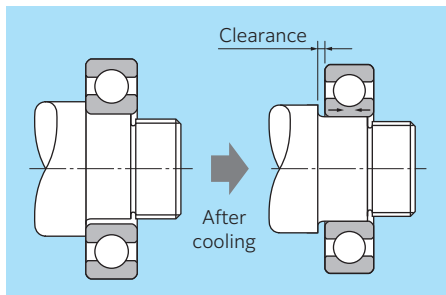
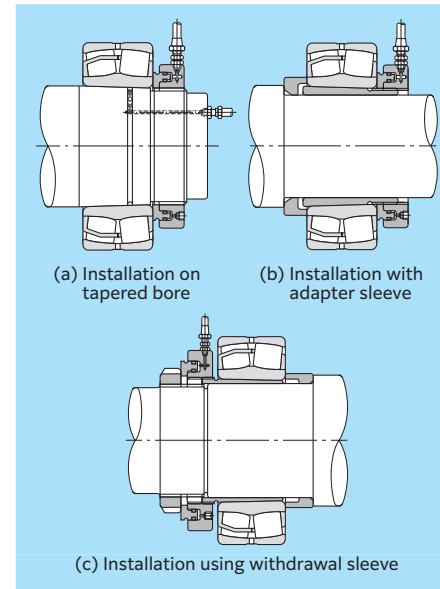

Fig. 15.19 Bearing contraction after heating
Fig. 15.22 Installation using hydraulic nut
- When heat fitting is performed, the inner ring contracts in the axial direction during cooling, creating a clearance between the bearing and the shaft shoulder (see Fig. 15.19).
Fig. 15.22 (a) shows a method of installation where a hydraulic nut is used to drive the bearing onto a tapered shaft. Fig. 15.19 (b) and (c) show installation methods using a hydraulic nut with adapter sleeves and withdrawal sleeves.